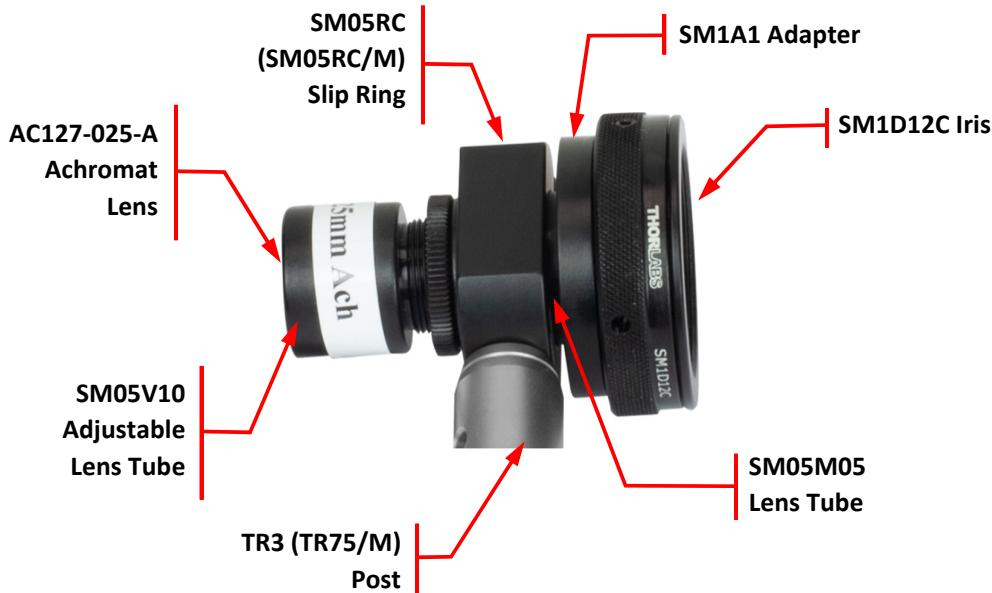

Figure 3: Achromat Objective
23. [Only if your instructor has not already assembled this for you:] Construct an objective using your 1/2" (12.7 mm) achromat lens, 1/2" adjustable lens tube (focus), 1/2" lens tube, SM1 - SM2 lens tube adapter, calibrated iris, and a 4" tall post TR4 (TR100/M, 100 mm). See diagram in Figure 3. A description can also be found in the manual.